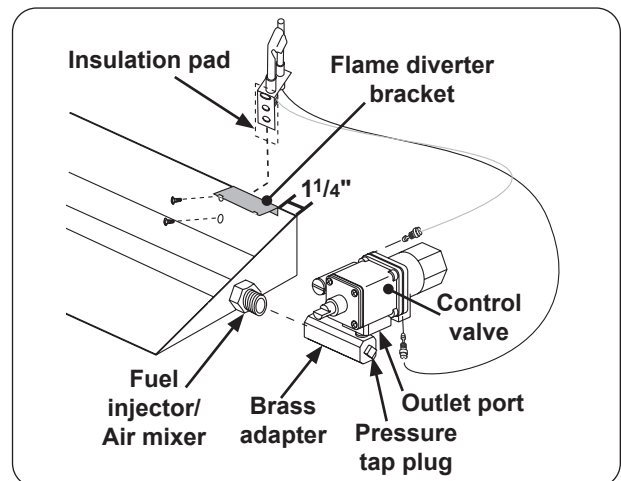

Fig. 4-2 Install control valve
2. Screw the brass adapter of the control valve to the fuel injector or air mixer on the burner (see Fig. 4-2).